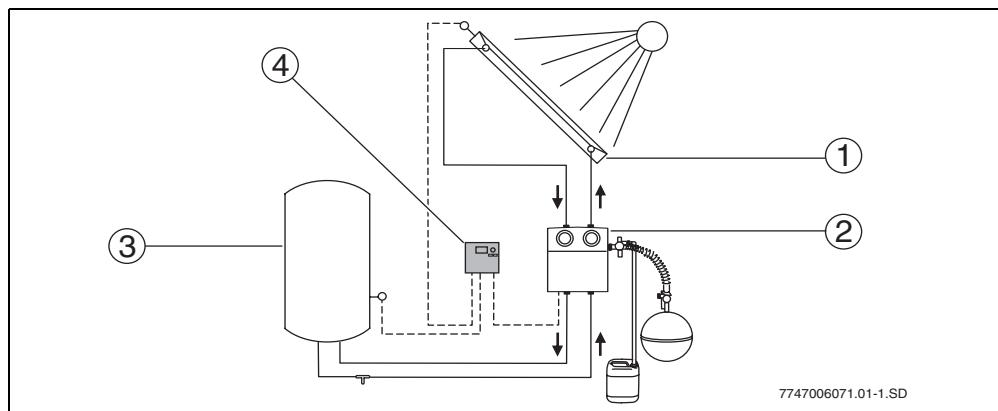

Fig. 1 System diagram
If the set temperature difference between the collector array (→ Fig. 1, item 1) and the solar cylinder (→ Fig. 1, item 3) is exceeded, the pump in the solar pumping station is switched on.